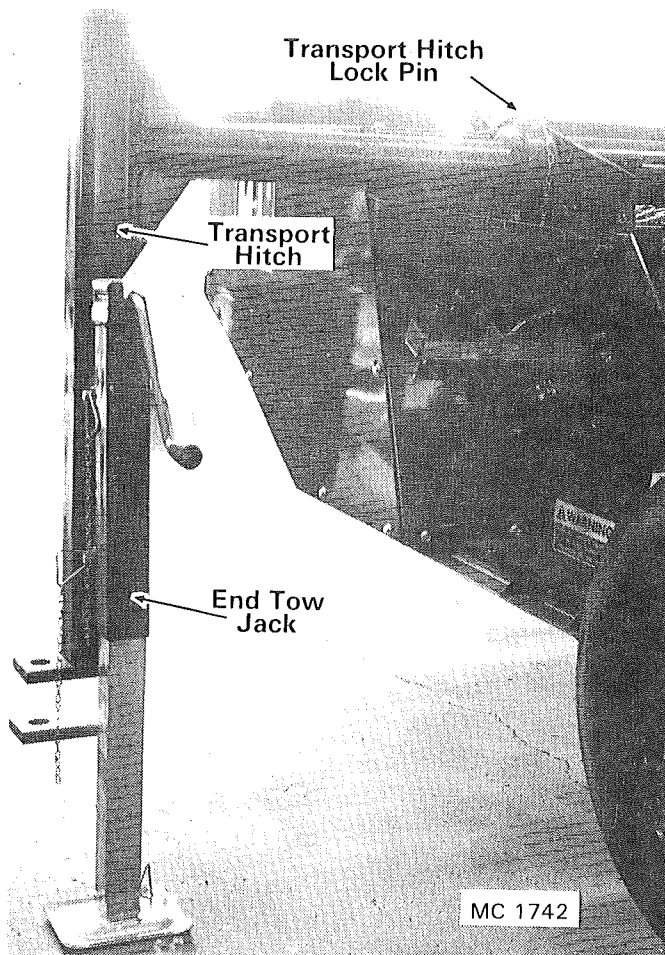

Figure 15
- Lower the end tow jack to the ground to take the weight off of the tractor drawbar, see Figure 15.